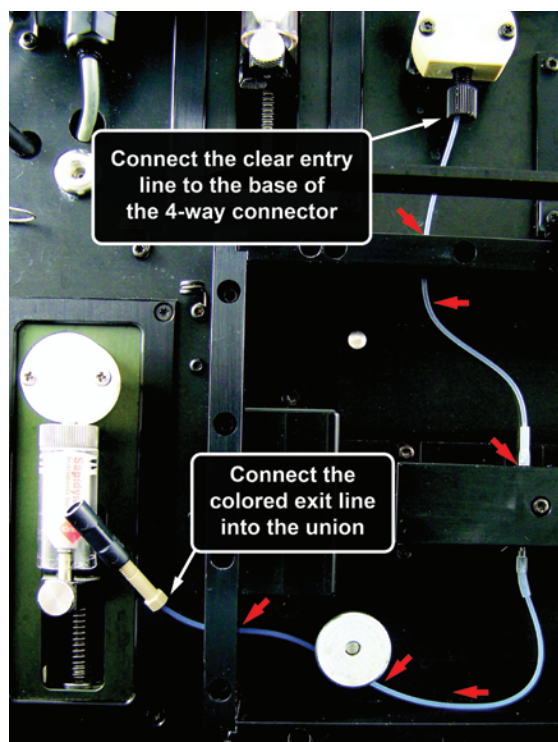

Figure 1. Installing a new flow cell into the instrument.
- Route the clear entry line upwards through the O-ring (located on the top of the optics housing frame) and attach it to the bottom of the 4-way connector using a white ferrule (347016) with a 1/4-28 black nut (346001). (*Figure 1*)
- Slide the colored exit line through the O-ring (located on the left side of the optics housing frame) and connect it into the bottom of the union using a 10-32 tan nut (346201) and a tan ferrule (347116). (*Figure 1*)